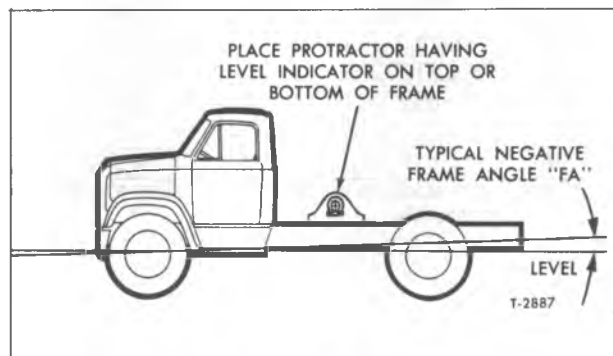

Figure 2—Method of Checking Frame Angle
IMPORTANT: Caster, camber, and toe-in dimensions are for vehicle carrying its design load whereby the frame in most instances would be level. If alignment check is to be made with frame NOT LEVEL the frame angle (fig. 2) must be determined and added to or subtracted from the caster angle to obtain a true caster reading.
frame angle (FA). See figure 2. Frame angle is the degree of tilt in the frame from the level position. Negative frame angle is when the frame is high (above level) in the rear. Positive frame angle is when the frame is low (below level) in the rear.
4. Add or subtract the frame angle (FA) found in step 2 to the left wheel caster reading found in step 3 to determine the "corrected caster" for left wheel.